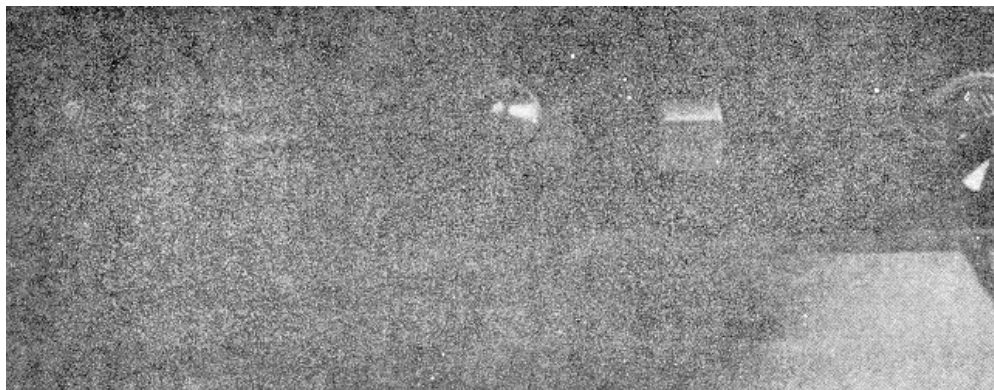

Figure 19
15. Depress the STANDBY pushbutton (figure 19).